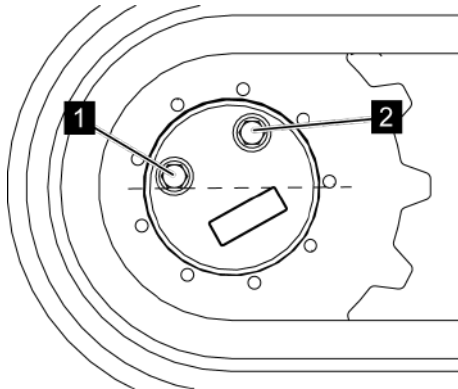

Fig. 160: Unscrewing the screw connections
5. ➤ Unscrew the screw connections (Fig. 160/1 and 2).